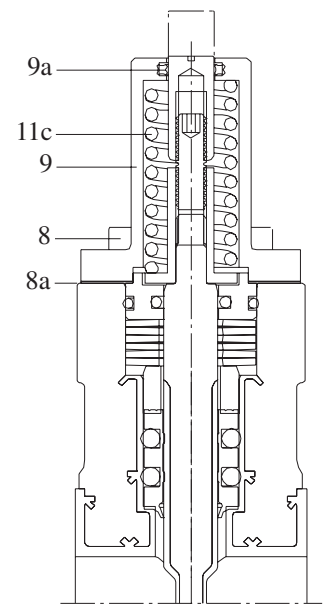
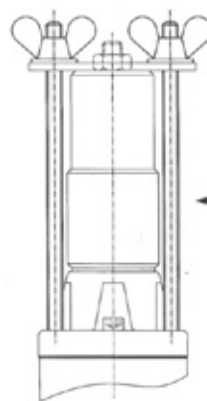

Figure 14
Figure 13.1
4. Remove two opposing socket head screws (8) replacing them with the two threaded rods from the spring tension device from Tool kit SV-W3.
5. Place the two-hole plates over the threaded rods followed by the washers and secure with wing nuts as shown in Fig. 13.1/14.1.
8. Remove bonnet (9) and gasket (8a) from the valve body.
9. On Bayonet adaptor models only: remove and replace the X-ring seal (9a) (See Fig. 14).